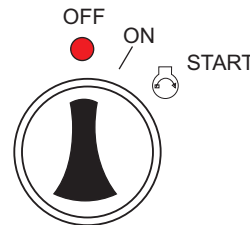

Figure 15. Ignition Switch
4. Insert the ignition key (Figure 15) into the ignition switch.